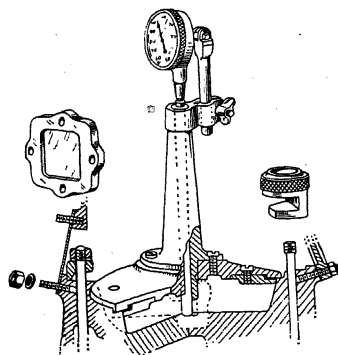

FIG. 36.—Tool for finding thickness of seal ring needed.
**Selecting the Top Seal Rings.**—Having lapped all the joint faces to the same level, attach the knurled setting gage to the base of the tool shown in Fig. 36 and set the dial indicator to zero. Remove the setting gage and insert the tool in one cylinder bore, as illustrated.